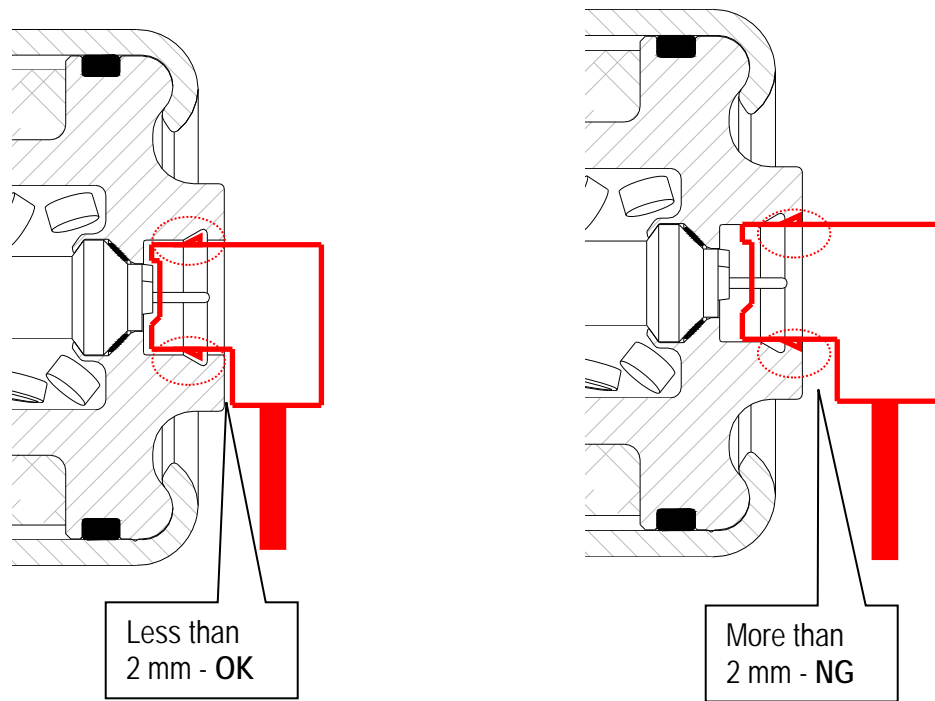

Figure Y19
- Make sure harness connector is fully engaged / seated (see Figure Y19).